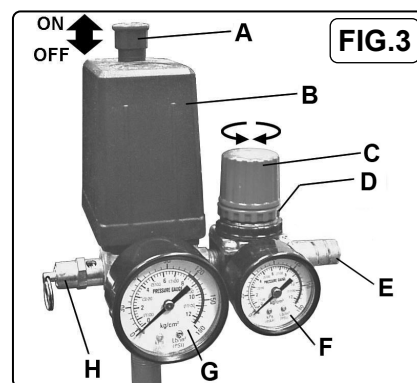

FIG.3
- 5.3.1. The compressor is fitted with a push/pull type of ON/OFF switch (fig.3.A).
- 5.3.3. Check that the ON/OFF switch is in the "OFF" position and the regulator tap (fig.3.C) is closed (Zero '0' bar, Anti-clockwise).
- 5.3.5. Leave the compressor running with the regulator tap (fig.3.C) set to maximum pressure. Make sure that the pressure in the tank rises and that the compressor stops automatically when the maximum pressure value allowed - written on the specification plate and shown on the gauge (fig.3.G) - is achieved. The compressor will now operate automatically.
The pressure switch (fig.3.B) stops the motor when the maximum tank pressure is reached, and will restart it when pressure falls below the minimum threshold - approx. 2 bar (29psi) less than the maximum pressure.
- 5.3.6. Stop the compressor by pushing the switch knob downwards (fig.3.A). The compressed air inside the compressor head will exhaust, making the restart easier and preventing the motor from being damaged.
- 5.3.7. The output pressure is regulated by the pressure regulator tap (fig.3.C). Turn the tap clockwise to increase pressure and anti-clockwise to reduce it. The tap can be locked at any required setting by tightening the locking ring (fig.3.D) up against the underside of the tap. To determine the correct working pressure for any piece of equipment check the corresponding manual. When the compressor is not being used, set the regulated pressure to zero so as to avoid damaging the pressure reducer.
b) The larger gauge (fig.3.G) indicates the pressure inside the main tank. The smaller gauge (fig.3.F) indicates the pressure supplied to the air equipment. Should the pressure in the main tank exceed the pre-set switch (fig.3.B) maximum, the safety valve (fig.3.H) will activate.
- ❑ **WARNING! For this reason DO NOT tamper with, or adjust, the pre-set switch or safety valve (fig.3.B&H).**